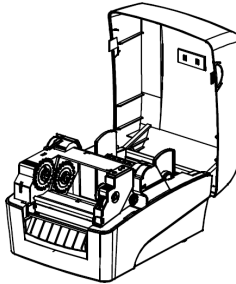

Figure 2.2.2
- 2) Press the cover open lever in the direction of arrow (see figure 2.2.2). After the ribbon holder is uplifted, turn it upwards to the angle as shown in the figure (see figure 2.2.3);